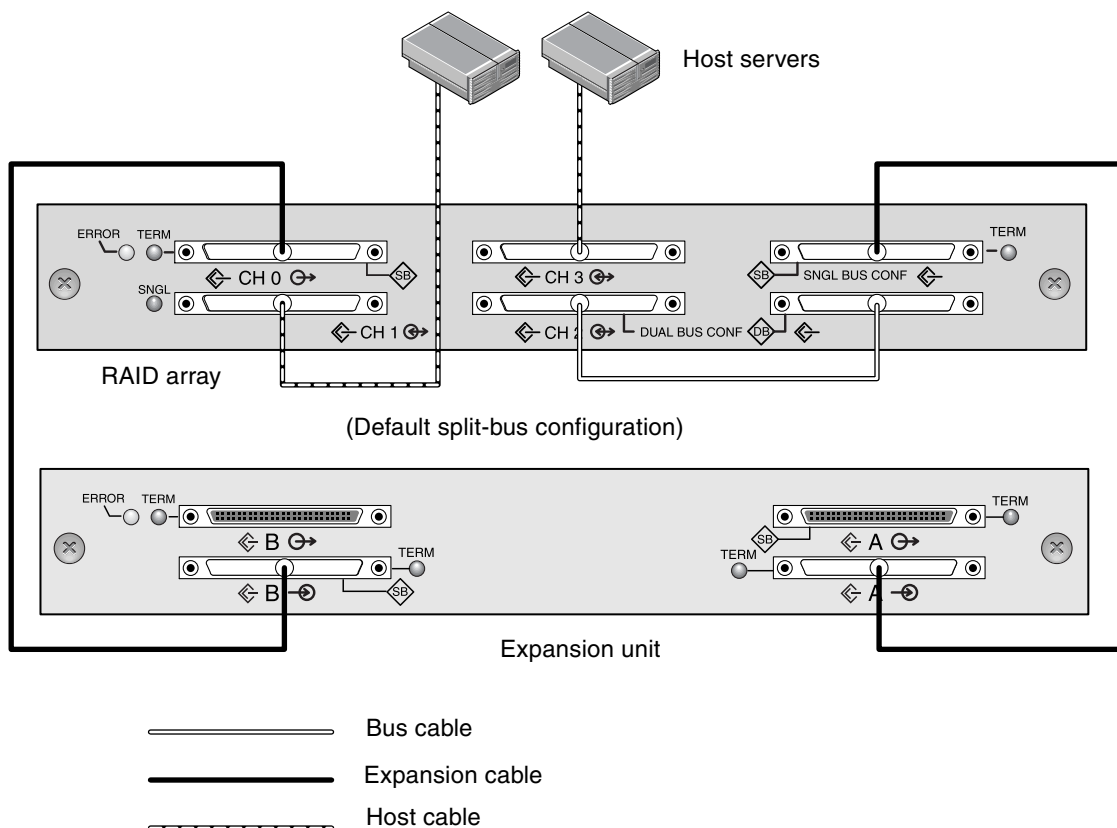

Figure 2-17 Split-Bus Configuration With One RAID Array and One Expansion Unit
In Figure 2-17, RAID channels 0 and 2 are expanded into the expansion unit, in a split-bus configuration set up on the RAID array and kept by default for the expansion unit.
3. Based on the configuration shown in Figure 2-17, the default drive IDs for a split-bus configuration are shown in the following figures.